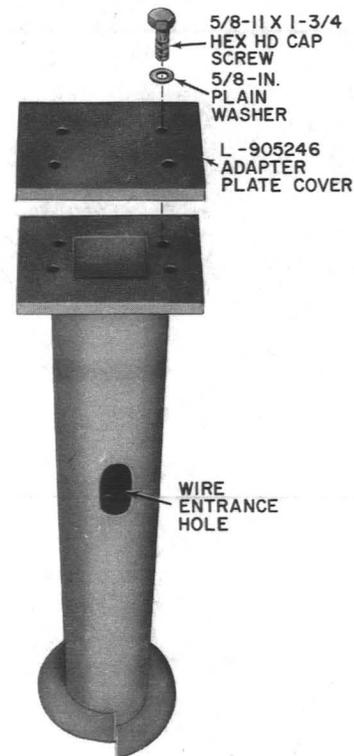
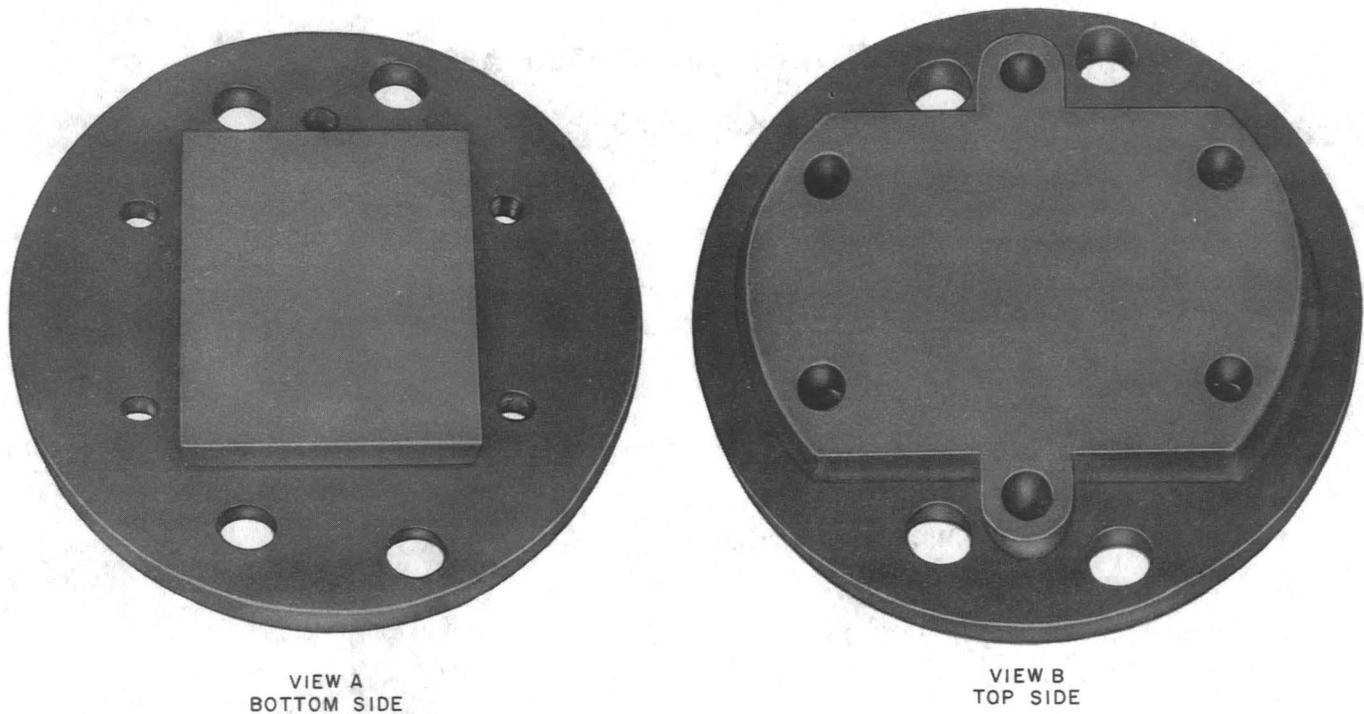
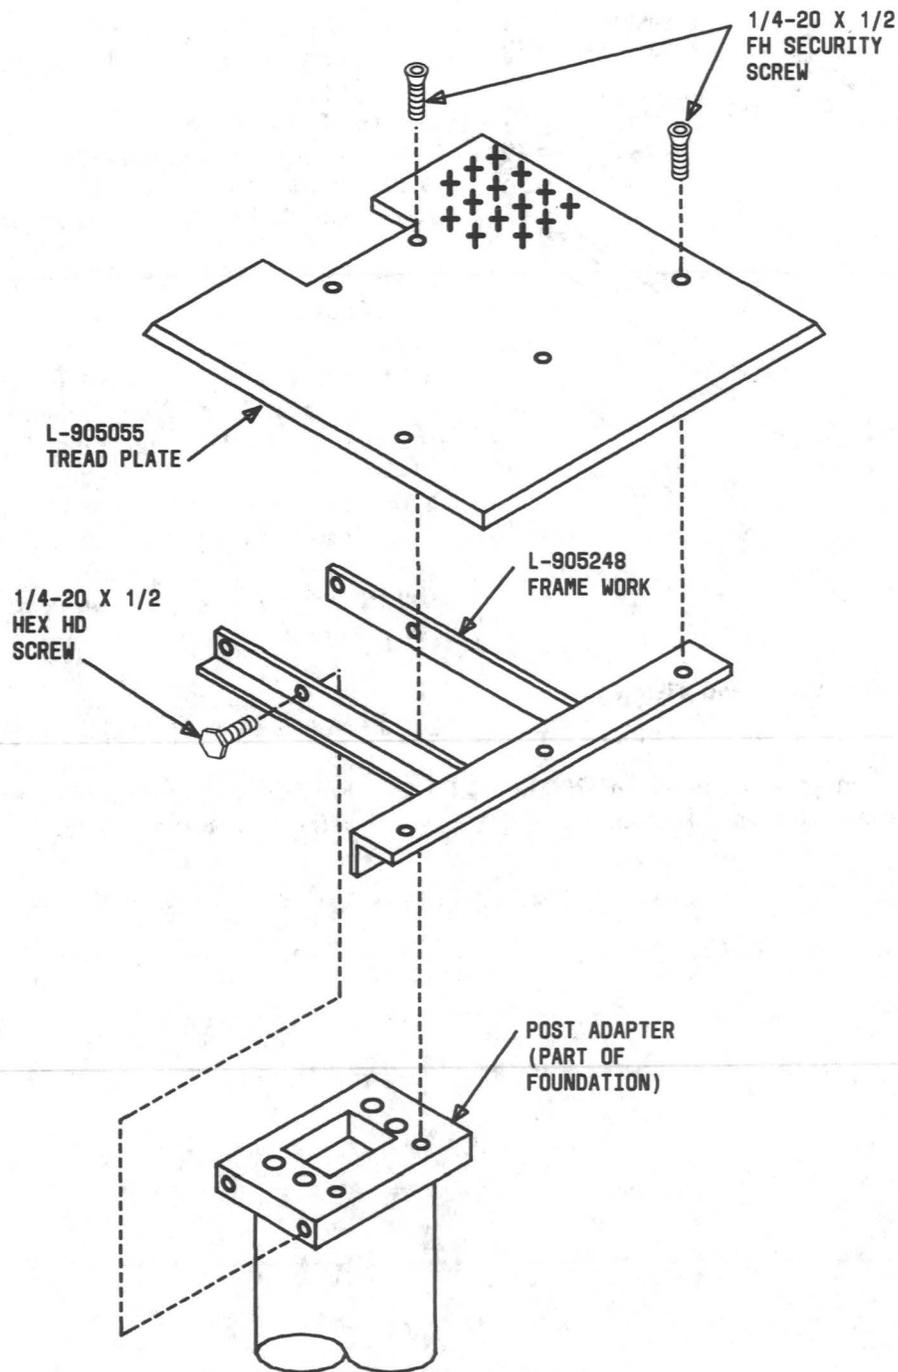
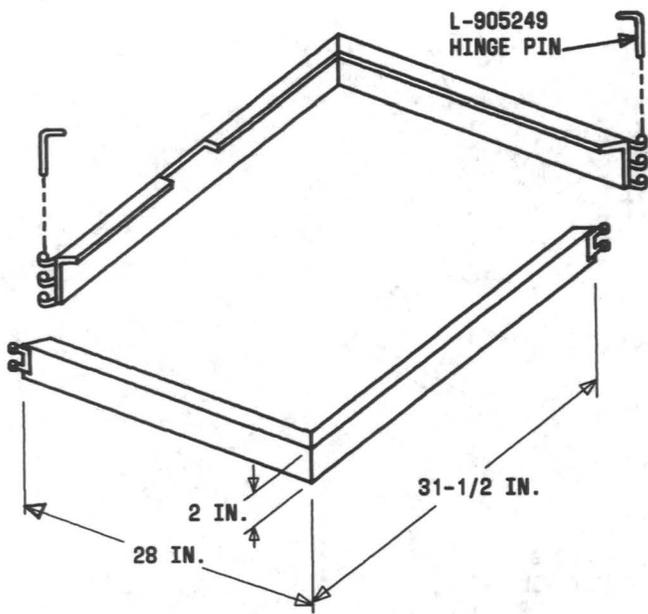

Fig. 1—KS-21976, List 1 Foundation
Fig. 2—KS-21976, List 2 Drive Tool
Fig. 3—Installation of KS-21976, List 3 Tread Plate
Fig. 4—KS-21976, List 4 Pad Fixture
1.01 This section includes information on the KS-21976, List 1 foundation (Fig. 1); KS-21976, List 2 drive tool (Fig. 2); KS-21976, List 3 tread plate (Fig. 3); and KS-21976, List 4 pad fixture (Fig. 4).
2.01 The foundation (Fig. 1) is a screw type anchoring device, designed to support a KS-20842 SENTRY\* telephone mounting, which can be used in lieu of a poured concrete base.
2.03 The drive tool (Fig. 2) is a round tool designed to interface between the foundation and the line truck digger shaft (Fig. 5).
2.05 The tread plate (Fig. 3) is an aluminum plate, 27-5/8 inches by 31-1/8 inches, which is used as a pad for the customer to stand on while using the phone. It is attached directly to the foundation with the support of a steel framework.
2.06 The pad fixture (Fig. 4) facilitates the construction of a concrete (or equivalent)
### 3. INSTALLATION (Fig. 4)
3.12 Install the KS-21976, List 3 tread plate on the foundation as shown in Fig. 3.
3.13 Place the cutout portion of the fixture around rear of foundation. Fasten the two sections together using the hinge pins furnished (Fig. 4).